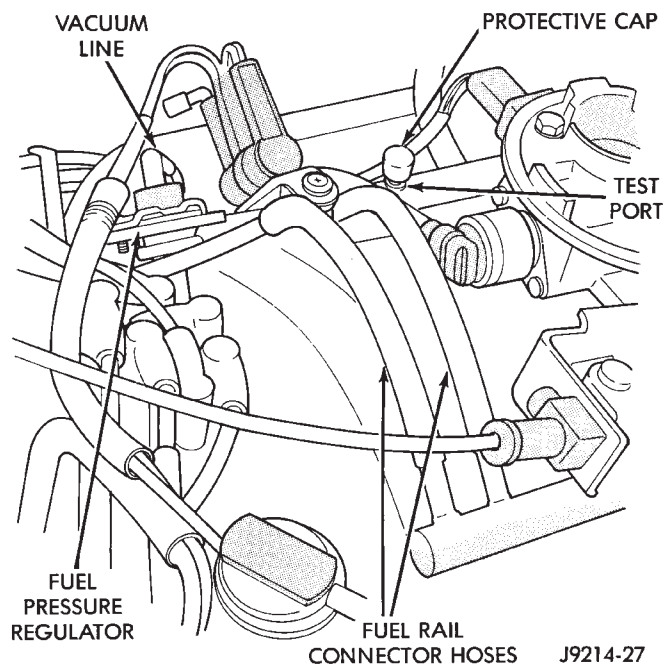

Fig. 5 Pressure Regulator Vacuum Hose
(9) Verify that vacuum line is firmly connected to fuel pressure regulator and manifold fitting (Fig. 5).
(10) Inspect fuel tube quick-connect fitting-to-fuel rail connections.
(11) Verify that hose connections to all ports of vacuum fittings on intake manifold are tight and not leaking.
(12) Inspect accelerator cable, transmission throttle